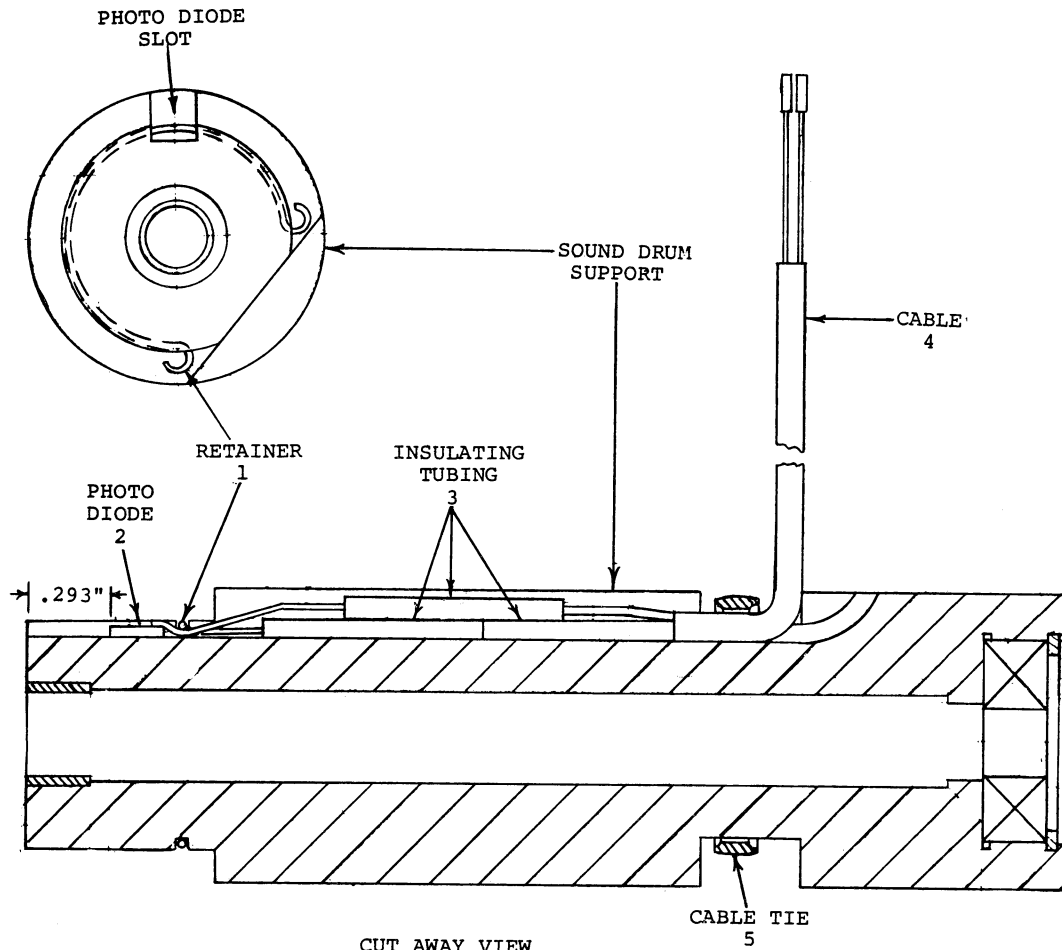

Figure 3-14. REPLACING PHOTO DIODE CHIP IN SOUND DRUM SUPPORT
Replacing Photo Diode Chip in Sound Drum Support (Figure 3-14)
2. Remove Retainer (1) Photo Diode (2) out of slot. Clip leads and discard Diode.
3. Remove Insulating Tubing (3) and unsolder remaining portion of Diode leads.
5. Position new Photo Diode into Slot with shiny, black surface up (red wire) and end aligned with mark made in Step 1. Assemble Retainer (1) to hold Photo Diode in place, orienting Retainer as shown in Figure 3-14. Make sure Photo Diode is perfectly flat in slot. (End of Photo Diode should be .293\" --about 9/32\"-- from end of Sound Drum Support.) PHOTO DIODE IS VERY FRAGILE. BE VERY CAREFUL NOT TO BREAK IT!
7. Slide Insulating Tubing on leads of Photo Diode and make sure that the third piece of Insulating Tubing is on Shield of Cable (4). Solder Black lead of Photo Diode to Shield of Cable and Red lead to Center Conductor of Cable. Slide tubing over solder connections (It may be helpful to cut Cable Tie (5) so Cable can be lifted out of Slot for soldering). Dress wires into Slot and replace Cable Tie if cut.